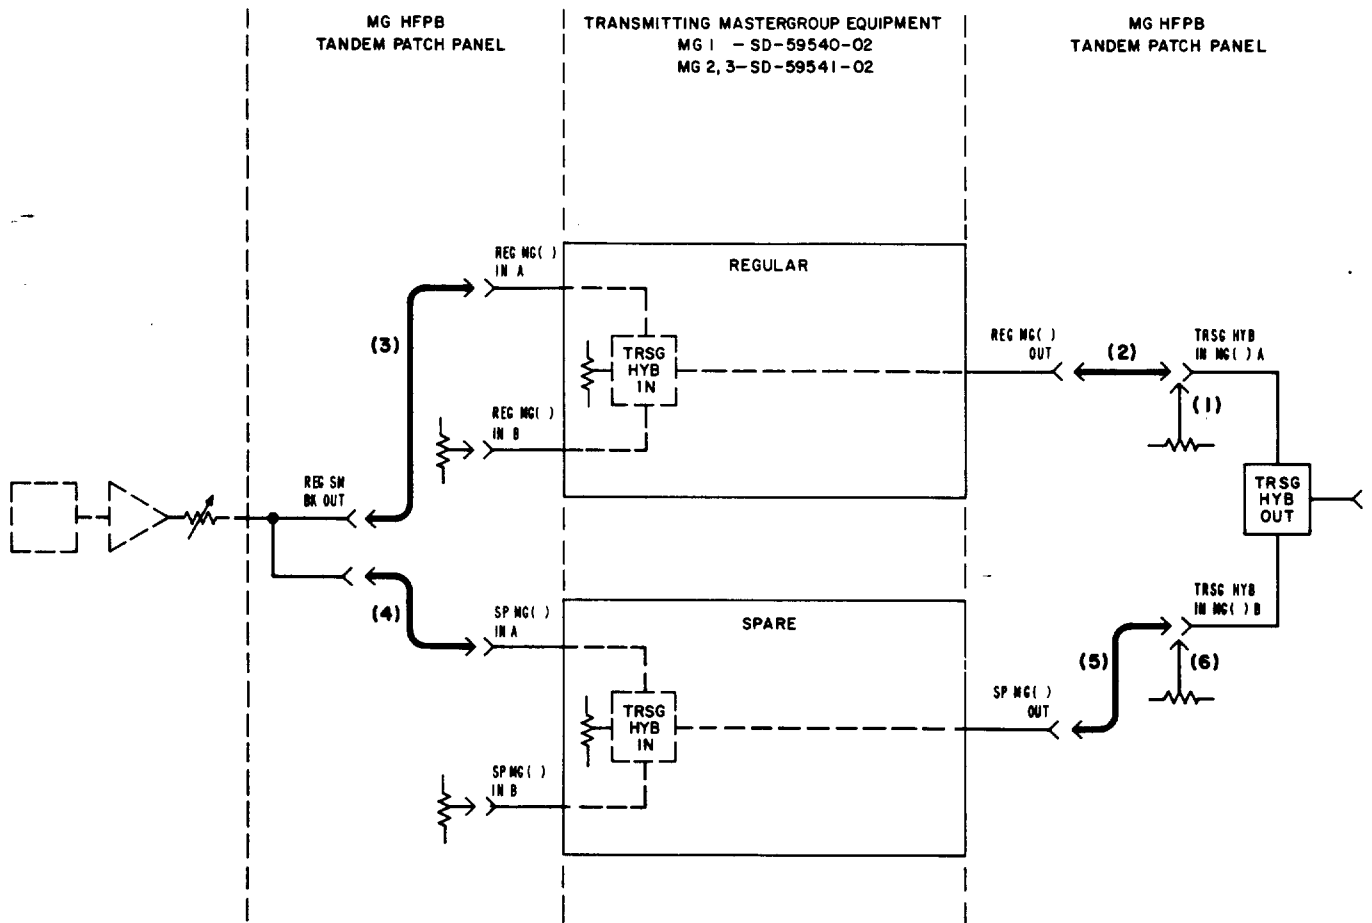

Fig. 4—Restoring Regular Equipment To Service—Patching Procedure
| | (a) Remove the 358B plug (75-ohm termination) from the TRSG HYB IN MG() A jack [patch (1), Fig. 4]. |
| | (b) Insert a 372A plug (through connection) into the TRSG HYB IN MG() A and REG MG() OUT jacks [patch (2), Fig. 4]. |
| | (c) Insert a 372A plug into the REG MG() IN A and multiple REG SM BK OUT jacks [patch (3), Fig. 4]. |
| | (a) Remove the 372A plug from the SP MG() IN A and multiple REG SM BK OUT jacks [patch (4), Fig. 4]. |
| 15 | <p>Requirement: Normal power indication for the monitoring point</p> <ul style="list-style-type: none">(c) Remove the 372A plug from the TRSG HYB IN MG() B and SP MG() OUT jacks [patch (5), Fig. 4].(d) Insert a 358B plug into the TRSG HYB IN MG() B jack [patch (6), Fig. 4]. <p>Disconnect the 1-kHz test tone and the RTE.</p> |